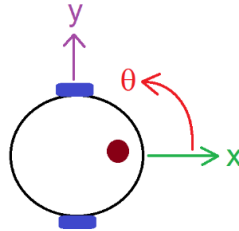

Figure 10: Robot Relative Reference Frame
- The reference frame for the robot is shown in Figure 10, where the robot's start position is (x,y,θ) $(0,0,0)$. Note that the z axis is coming up out of the robot centered between the two wheels. The x axis is straight ahead and the y -axis is to the left. Positive angles are counterclockwise and negative angles are clockwise. Turn on the GREEN LED when the robot is executing the Go To Angle behavior.